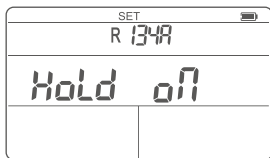

FIG. 11 Temperature Compensation Setting Interface
2.Short press the  key three times to switch to the temperature compensation setting [FIG.11].